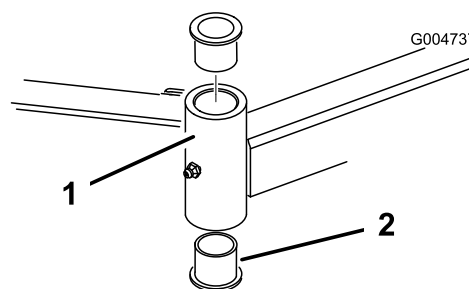

Figure 27
4. Insert a pin punch into the top or bottom of the mounting tube and drive the bushing out of the tube (Figure 27). Also drive the other bushing out of the tube. Clean the inside of the tubes to remove dirt.